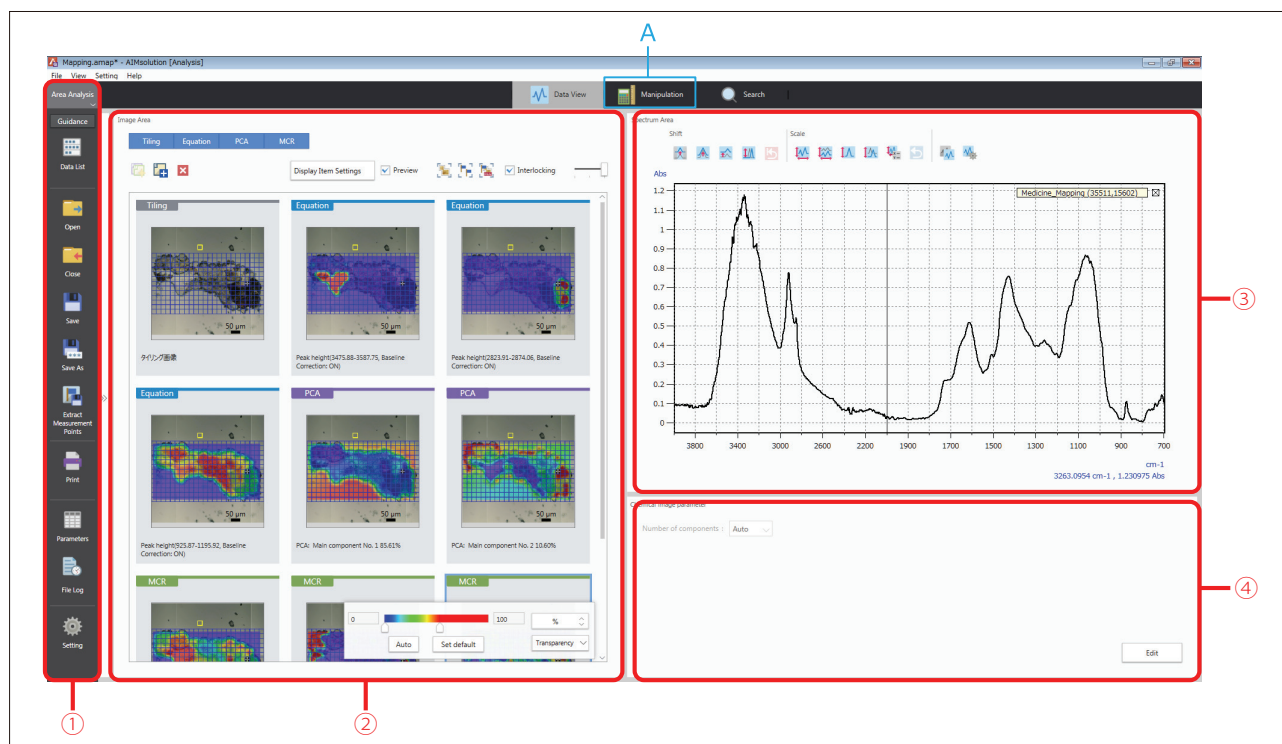

Fig. 5 Area Data Analysis Program Window
Analysis of the area measurement results is performed by the Area Data Analysis part of the analysis program. A view of the Area Data Analysis screen is shown in Fig. 5.
To perform preprocessing of measurement data, change windows by clicking the [Manipulation] button in Fig. 5 (A). Preprocessing included in the software are baseline correction, atmospheric correction, advanced ATR Correction, Kramers-Kronig analysis, and difference (compute difference spectra).